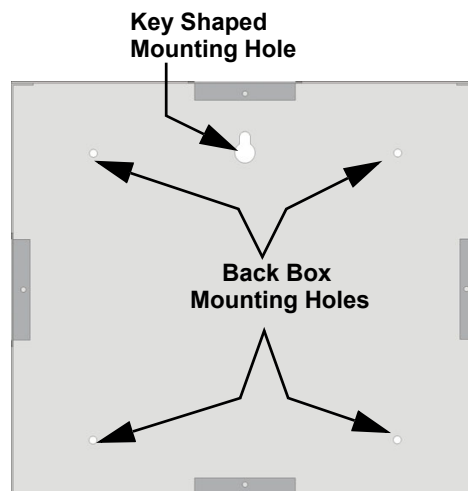

Figure 4-14 Back Box Surface Mount Holes
2. To properly mount the back box, insert a single screw into the key shaped mounting hole. Do not tighten all the way. See Figure 4-14. Place a level on top of the back box, with the back box level insert the rest of the mounting screws.